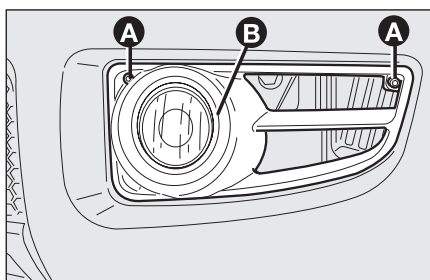

fig. 18
- ☐ loosen the two fastening screws **A**-fig. 18 and remove the cover **B**;